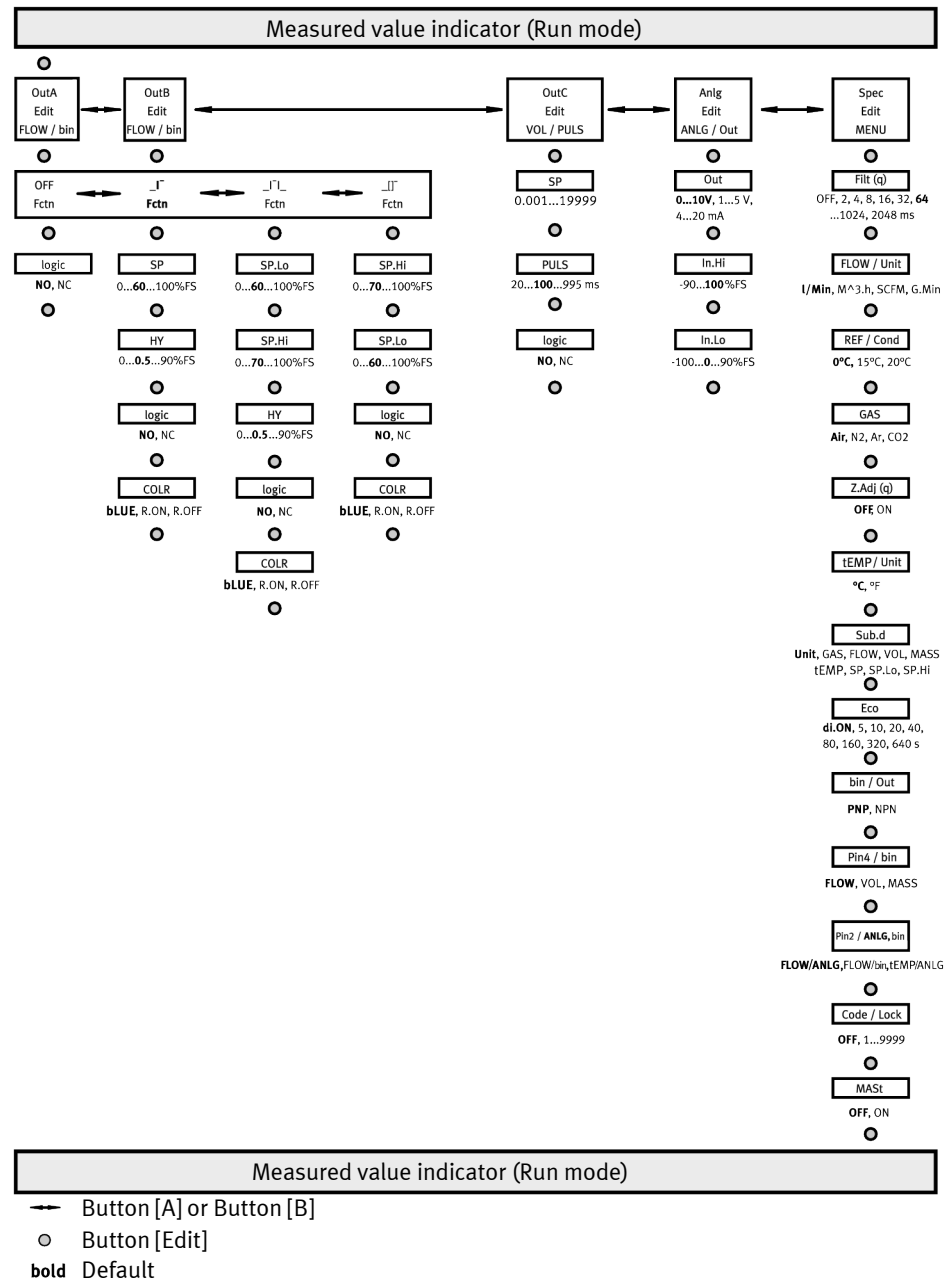

Fig. 12: EDIT mode menu structure
5. Repeat steps 3 and 4 until all parameters are set → Fig. 12.